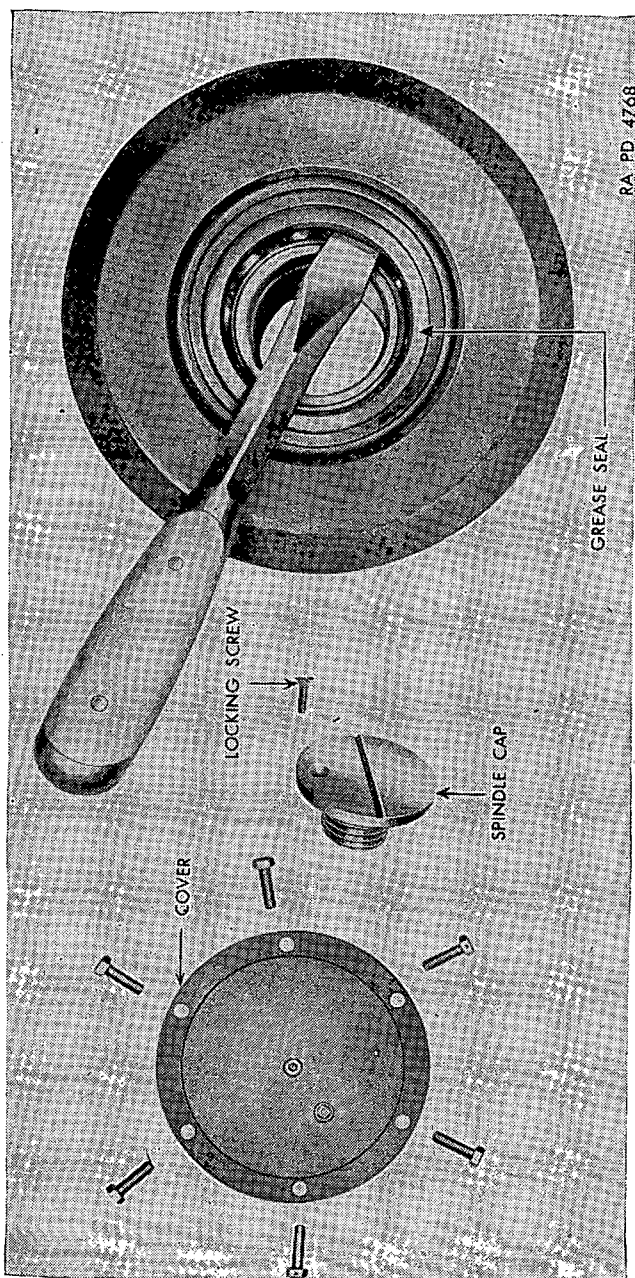

FIGURE 77.—Removing grease seal, track support rollers.
(b) Remove locking wire. Remove six $\frac{1}{4}$ -inch hex-hd. cap screws holding track support roller plate to roller, and remove plate (fig. 77).
(2) *Grease retainer replacement.*—(a) Remove unserviceable retainer as shown in figure 77.